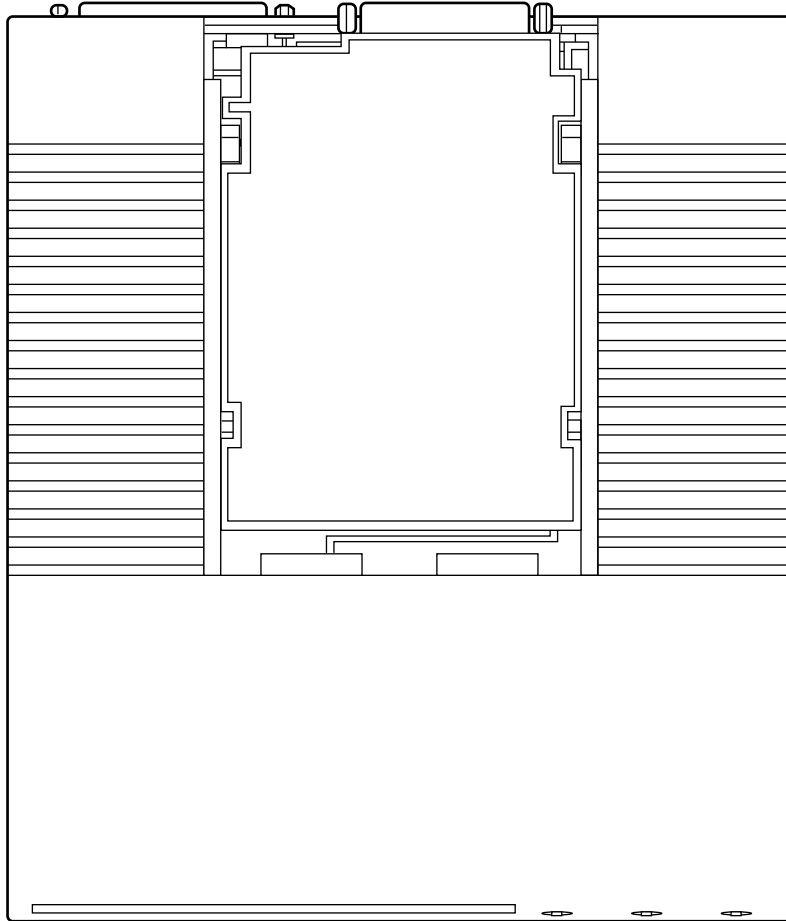

FIGURE 8-7. The Board in Place
- Push gently but firmly on the board until it is secured in place, and the edges of the board rest on the notches in the housing (Figure 8-7).